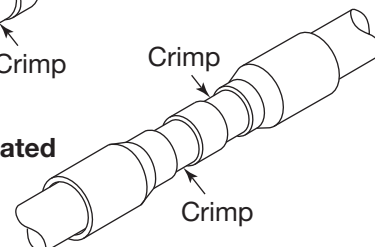

FIGURE 2
2. Depress and hold the foot pedal until tool cycles completely. Repeat Step 2 for the next crimp (see Figure 2).